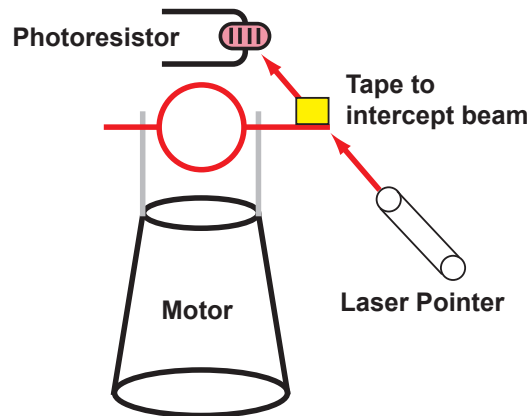

Figure 1: Speed Measurement Setup.
We will measure the speed of the motor by looking for a piece of tape to interrupt the laser beam incident on a photoresistor (suggested setup for the home-built DC motor is sketched in Figure 1).
3. Position the motor that you built between the photoresistor and the laser and attach a piece of tape to the coil. Ensure that the laser is interrupted by the paper as the coil spins. (Figure 1)